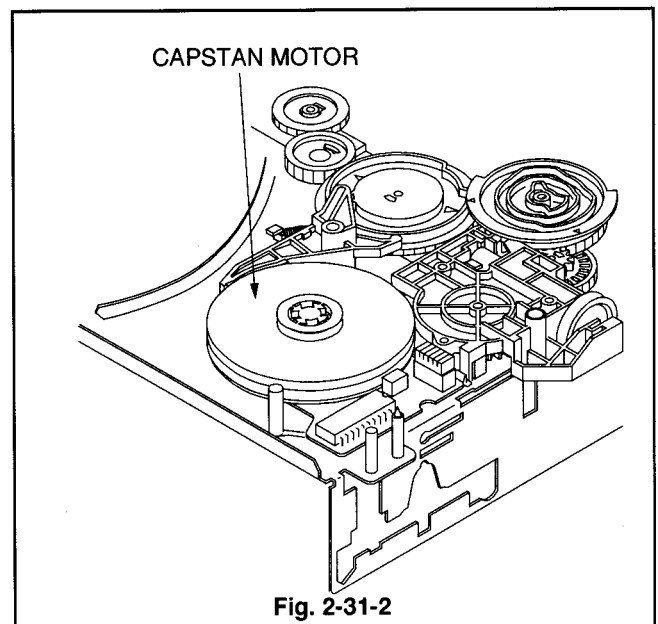

Fig. 2-31-2
- 1 Set the CAPSTAN MOTOR in the position shown in Fig. 2-31-2 to install it.